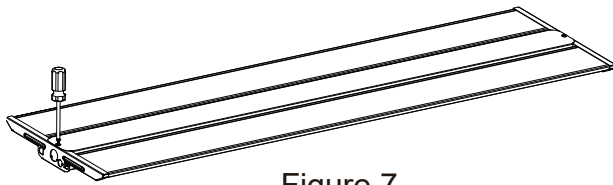

Figure 7
Step1. Unscrew the two screws on the front of the lamp(Figure 7);